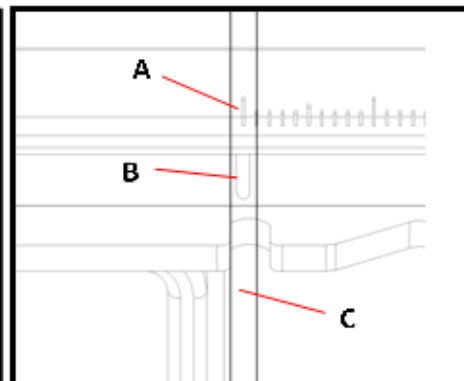

Fig.12
3. Adjust the laser and return zero position by adjusting the guide ruler (A) and back base to zero position (B). The laser indication needs to close U shape gap (C). Fig.12.